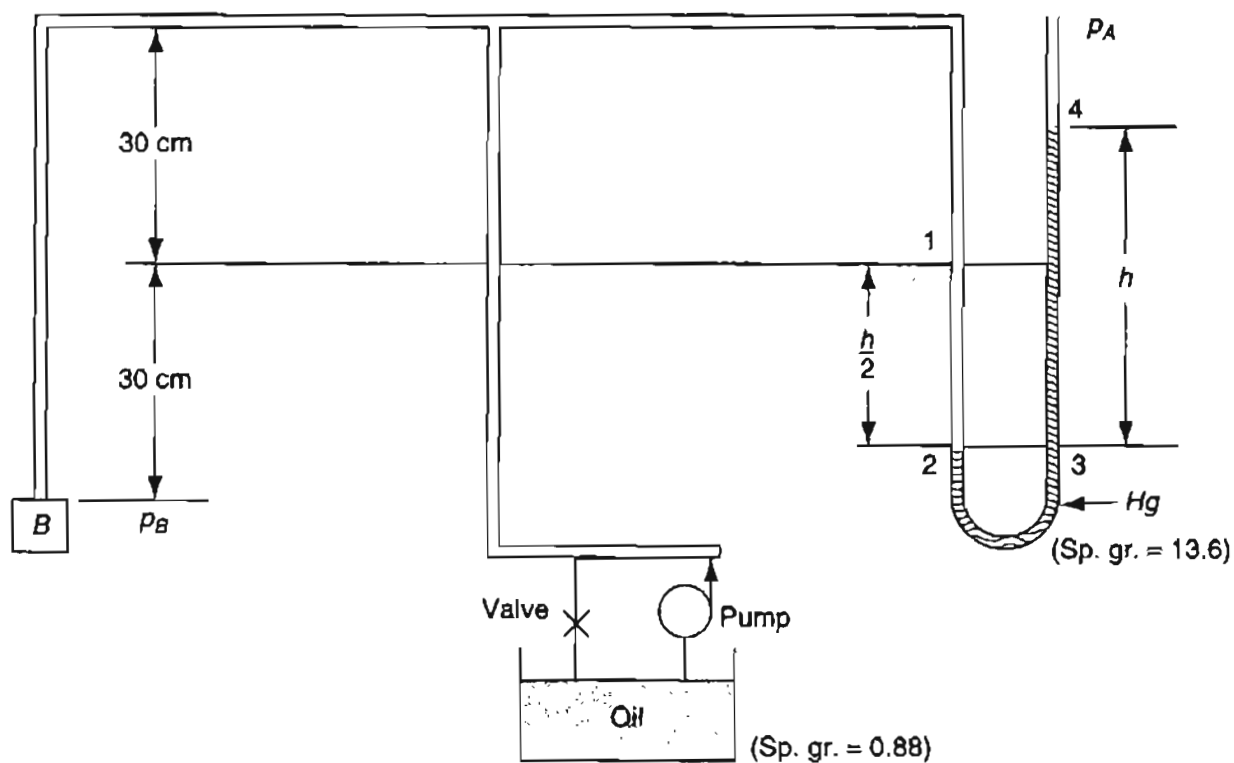

Figure P5.25
5.25 Express p_B as a function of h based on the data given in Figure P5.25. The non-shaded tube contains oil.